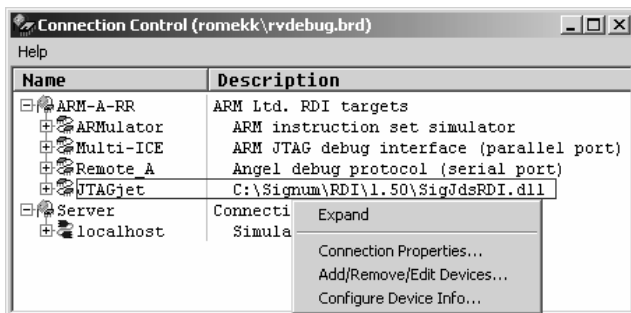

FIGURE 9 The augmented target list.
- 6. In the Connection Control dialog box, right-click the new connection entry and select Configure Device Info from the popup menu (Figure 9).